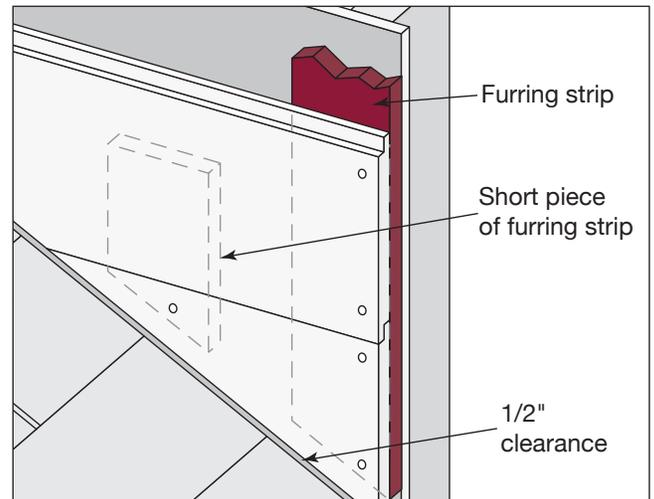

Fig. 41
- If the end of the siding is not secured to a furring strip, cut a short piece of furring strip and secure it to the wall sheathing and then proceed to installing your siding course (**Fig. 41**)